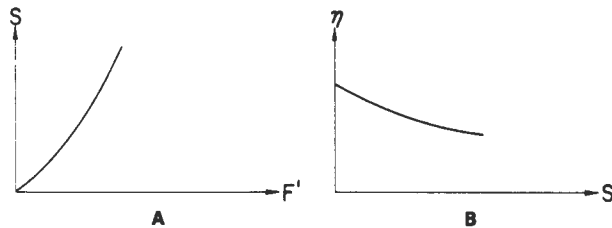

Figure 4-3
**PSEUDOPLASTIC.** This type of fluid will display a decreasing viscosity with an increasing shear rate, as shown in Figure 4-3. Probably the most common of the non-Newtonian fluids, pseudoplastics include paints, emulsions, and dispersions of many types. This type of flow behavior is sometimes called "shear-thinning."